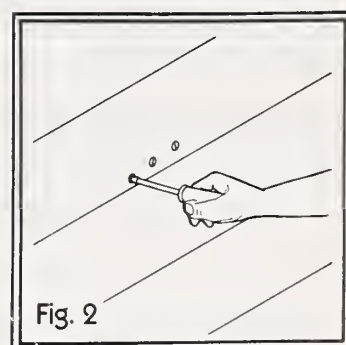

Fig. 2
2. Now pull the warped board into line by tightening the screw into the sheathing (fig. 2). Cover the head of the screw with putty.